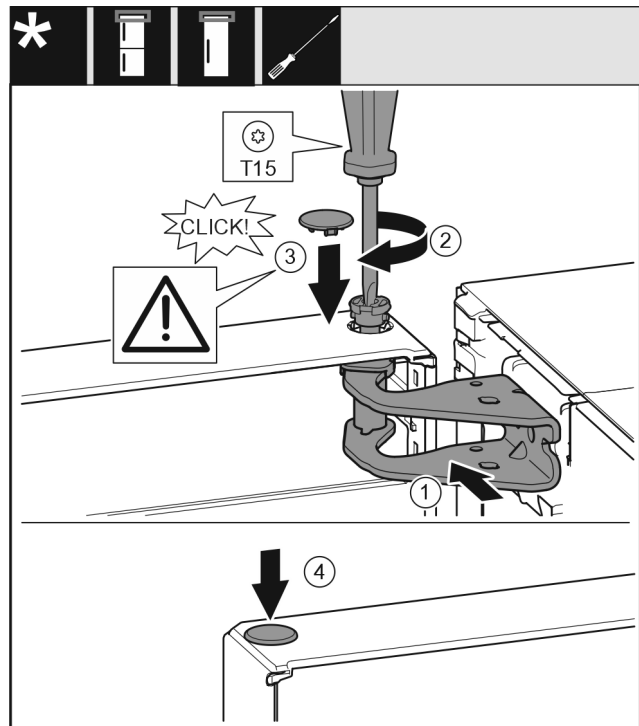

Fig. 23
- ▶ Align the door on the top towards the opening in the swap bearing block Fig. 23 (1).
- ▶ Insert the pin Fig. 23 (2) and tighten it with the screwdriver.
- ▶ Insert the cover Fig. 23 (3).
- ▶ Check to be sure that the cover Fig. 23 (3) is positioned on the door.
- ▶ Insert the cover Fig. 23 (4).